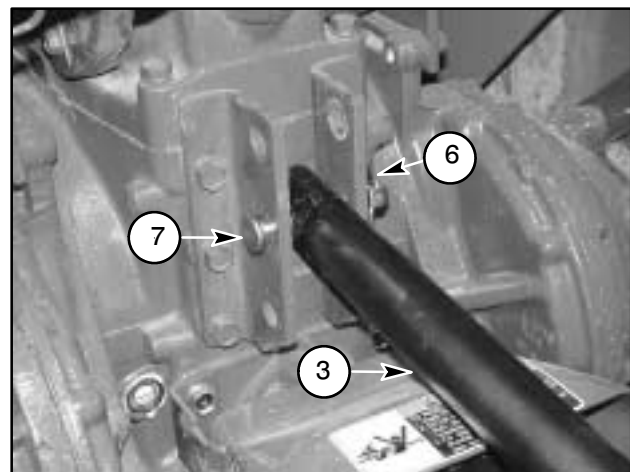

Figure 15 Top Link to Tractor Installation (Typical Installation)
4. Attach outer link end to tractor top link bracket using original tractor top link pin as shown in Figure 15.
5. Tighten 1" hex nut (1).